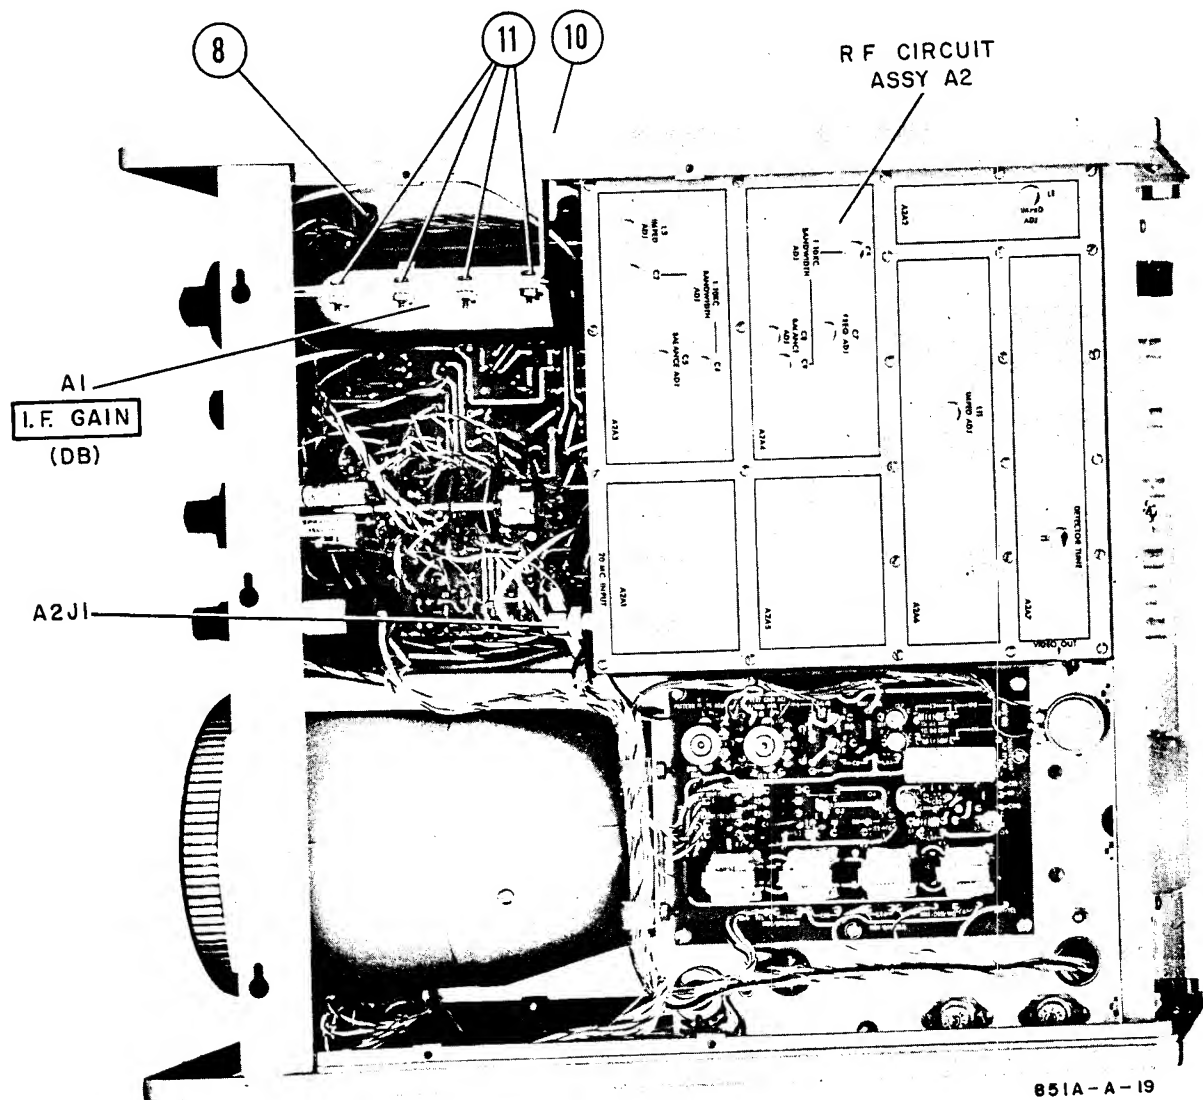

Figure 5-14. Bottom View of 851 Display Section
e. Remove three screws ⑥ on the deck; these are 6-32 x 3/8 BH machine screws fitted with toothed lockwashers.
f. Remove the 6-32 x 5/16 stainless steel hex nut designated ⑦; a 5/16 socket wrench (Spintite) is recommended. This nut secures a 6-32 x 1/2 spade lug connected to a cable clamp. After removing nut, push down on screw so it will drop out of deck hole and hole in A6 Board.
g. On rear of A6 Board, find screw designated ⑧ on Figure 5-14. This screw is also a 6-32 x 1/2 spade lug connected to a cable clamp, and is secured to the A6 Board by a nut which is located under Assembly A12.
c. Disconnect cable from A2J1 (on RF Circuit Assembly casting, see Figure 5-14).
e. Remove screw ⑩ (Figure 5-14) which holds Assembly A1 bracket to left-side casting; this is an 8-32 x 1/2 FH machine screw with integral lockwasher.
g. To unfasten the shield, remove five screws ⑪; these are 6-32 x 1/2 BH machine screws with integral lockwasher.